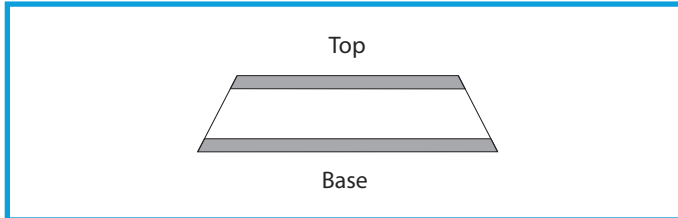

Figure 1. Microcap® Shape.
2.0. MICRCAP® DESIGN. KYOCERA AVX GN Series (formally ATC 111 Series) MICROCAPS® have a unique truncated pyramid shape. See Figure 1.